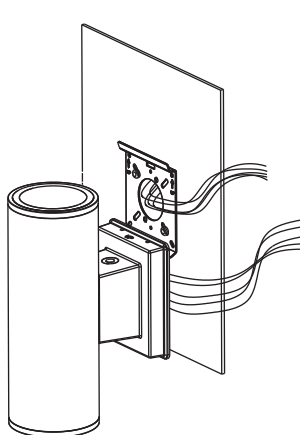

fig. 4
4. Hang the fixture on the lower hook of mounting plate in the correct upward direction. (Figure 4)